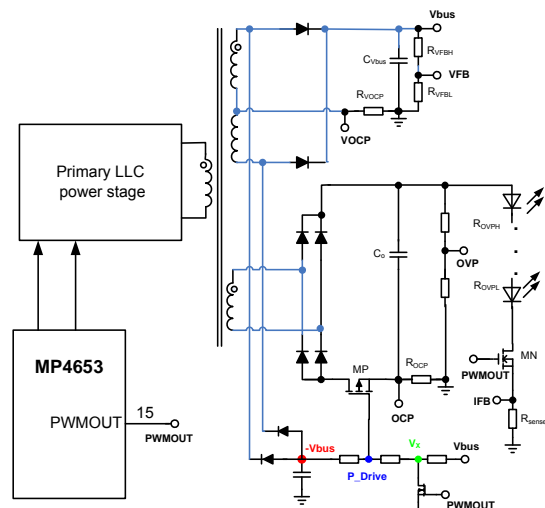
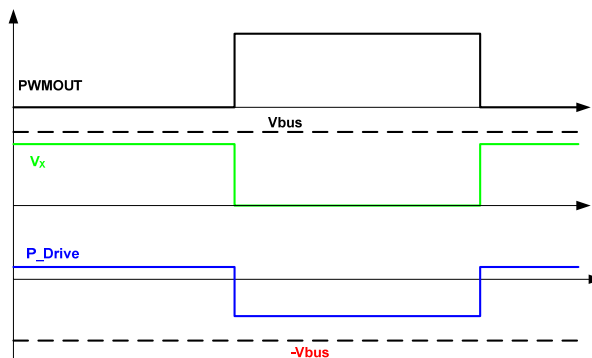

Figure 5A—PWMOUT for the P_MOS Driver
Figure 5B—Scheme of the PWMOUT Driving the P_MOS
The PWMOUT signal is also used to control the external P-MOS (MP) for protection, as shown in figure 5A. Figure 5B shows the operating scheme of this driving circuit. A negative voltage source ($-V_{bus}$) is generated from the secondary winding of DC bus stage. A pulse waveform at “ V_x ” is generated through the PWMOUT signal. By summing the negative voltage source and V_x , a pulse waveform with a negative magnitude is generated on “P_Drive” (the P-MOS gate) and is used to drive the P-MOS.